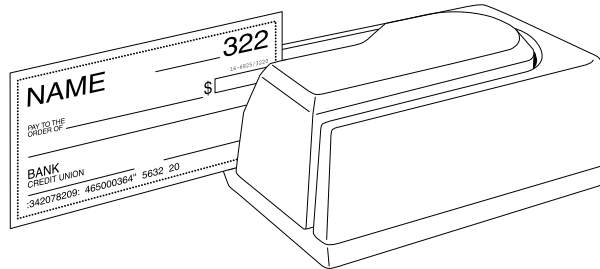

Figure 3-1. Check Orientation
1. Orient the check so the MICR line is down and the printed side faces the center on the MICR Reader as shown in Figure 3-1.